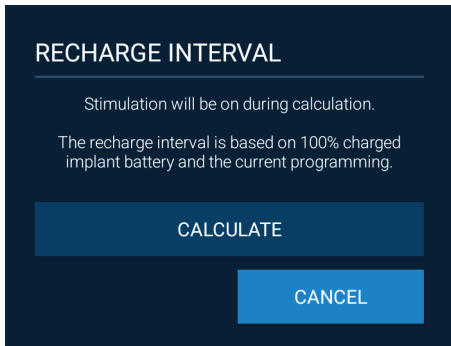

Figure 41. Recharge Interval screen
- 2. Tap **CALCULATE** on the Recharge Interval screen (Figure 41).